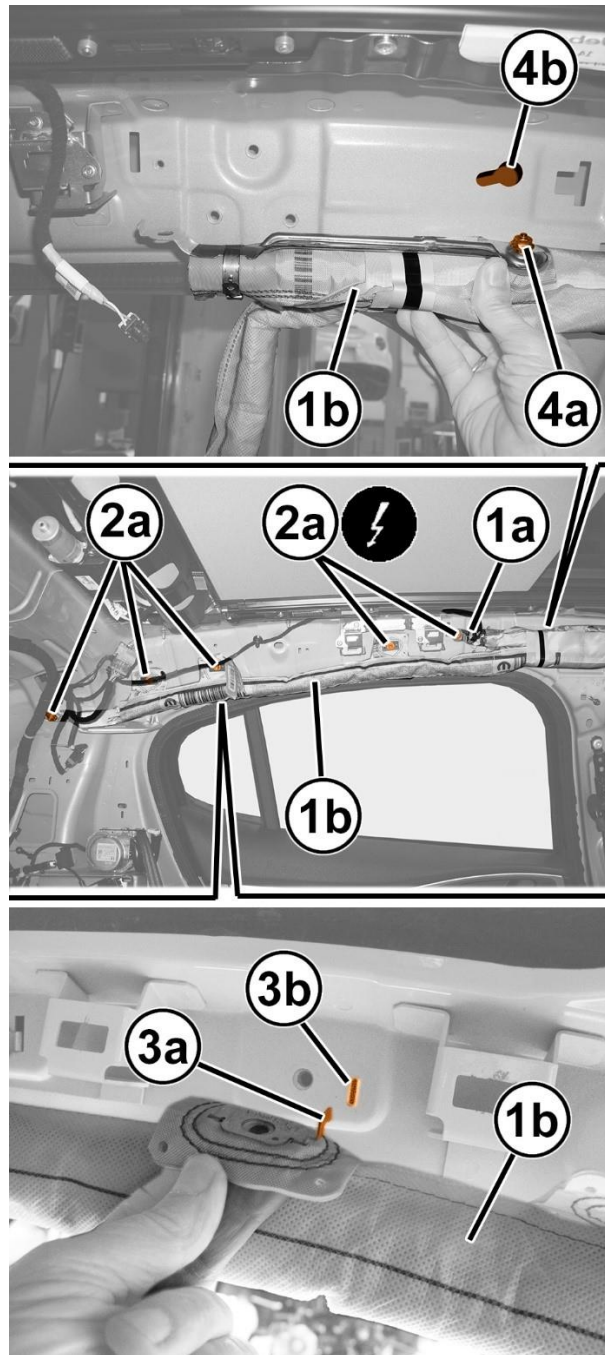

Figure 26 – Side Curtain Air Bag
57. Disconnect the electrical connection (1a) from the side curtain air bag module (1b) (Figure 26).
58. Remove the screws (2a) securing the rear of side curtain air bag module (1b) (Figure 26).
59. Release all the retainers (3a) for the side curtain air bag module (1b) from their housings (3b) on the vehicle, on both the rear and front (Figure 26).
60. Remove the side curtain air bag module (1b) after disengaging its retainer (4a) from its housing (4b) (Figure 26).